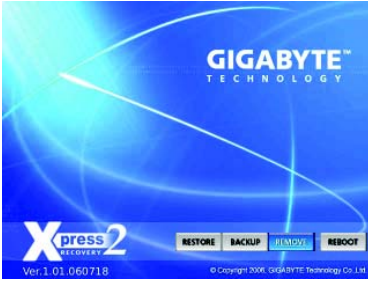

Figure 15
1. If you wish to remove the backup file, select **REMOVE** (Figure 15).